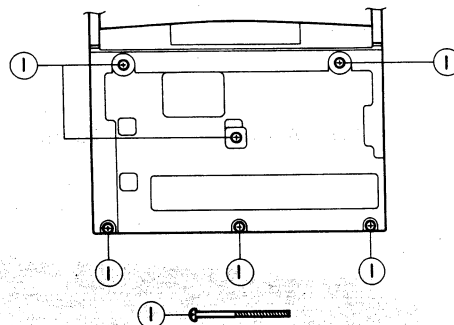

Fig. 2-1
■ Cabinet Section (Fig. 2-1)
1. Remove six screws (1) retaining the front cabinet from the back side.